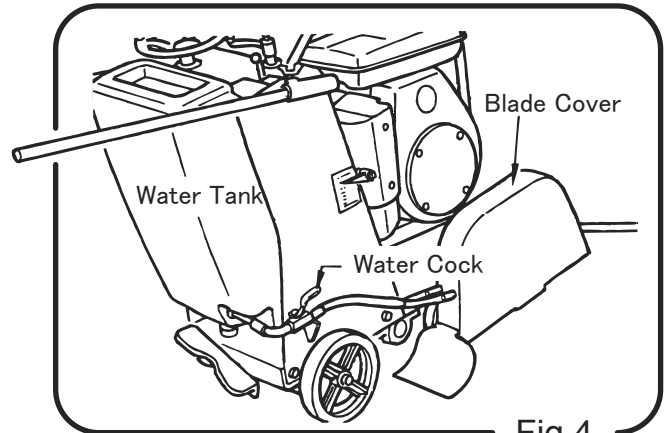

Fig.4
7.4. Water tank (Fig. 4)
As the standard, if water mist is being sprayed to the extent that water does not flow, the cooling will be sufficient. Adjust the amount of water with cock. (Spray on a little heavier side when there is sufficient water.) (Fig. 4)